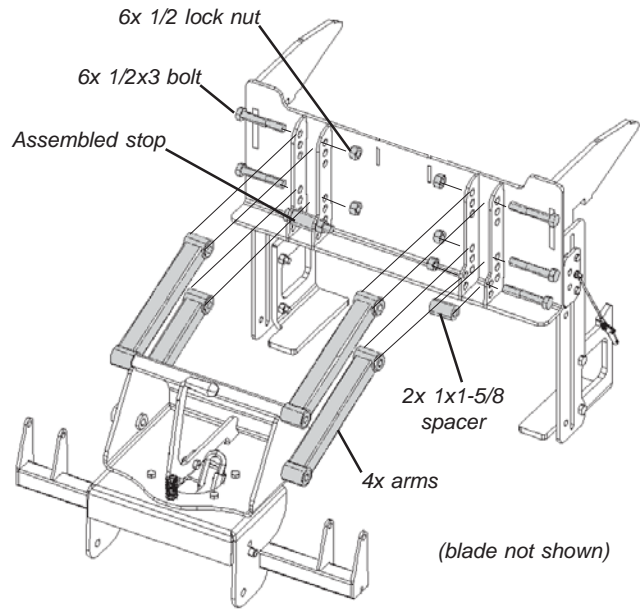

Figure 15 Install plow arms and stops onto support
14. Insert a 1" outer dia x 1-5/8" long spacer in arm stop position #1 between one set of outside flanges. Slide a 1/2" dia x 3" long bolt through arm stop position #1 of the outside flange, through the spacer, and out the other side of the flange. See Figure 15. Terminate the bolt with a 1/2" dia nylon lock nut.
16. Slide a 1/2" dia x 3" long bolt through bottom arm position #1 in the outer flange, through the spacer, and out the other flange. See Figure 15. Terminate with a 1/2" dia nylon lock nut. Tighten the nut until the nut and head of the bolt are resting against the surface of each outer flange. The arm should rotate freely around the bolt.
18. Slide a 1/2" dia x 3" long bolt through top arm position #1 in the outer flange, through the spacer, and out the other flange. See Figure 15. Terminate with a 1/2" dia nylon lock nut. Tighten the nut until the nut and head of the bolt are resting against the surface of each outer flange. The arm should rotate freely around the bolt.